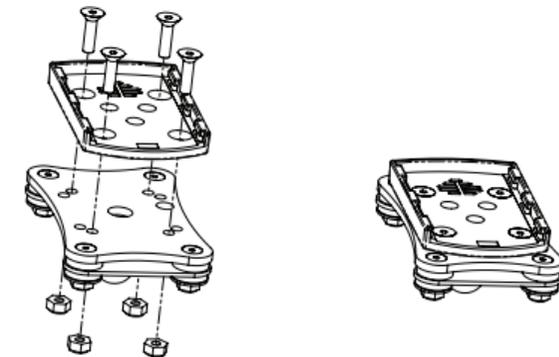

Figure 3
2. Using the $3/32''$ Hex Key, assemble the *Adapter Plate* to the mount plate with the supplied *Universal Adapter Screws* and *Universal Adapter Nuts* as shown in **Figure 3**.